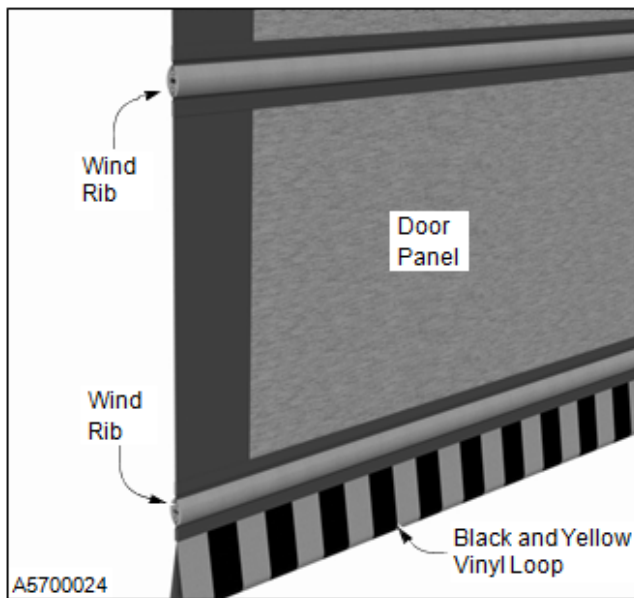

Figure 50
4. Slide either the top or bottom wind rib out of the worn door panel. (See Figure 50)